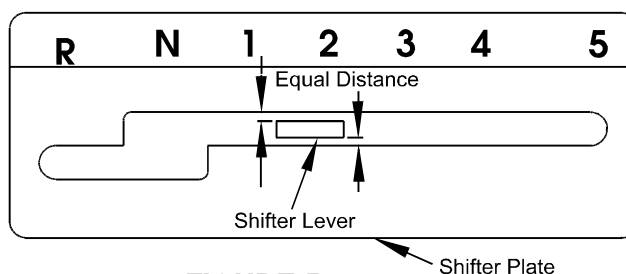

FIGURE 5
- Shift lever to second gear and check alignment of lever in slot of shifter plate. Clearance between top of lever and the top of the slot should be about equal to the clearance between bottom of the lever and the bottom of the slot (See figure 5). If it is not, remove lever and bend it slightly to adjust. DO NOT bend lever while it is attached to transmission. Reinstall lever and tighten hardware.